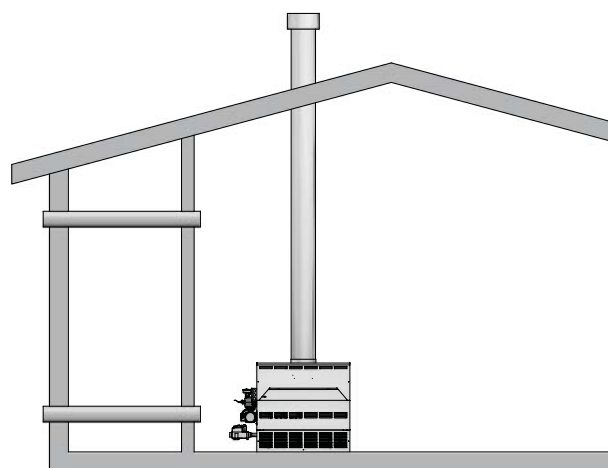

Figure 1-4_Combustion Air Through Ducts
2. If combustion and ventilation air is taken from the outdoors using a duct to deliver the air to the room where the appliance is installed, each of the two openings should be sized based on a minimum free area of one square inch per 2000 Btu/hr (11cm² per kW) (see FIG. 1-4).